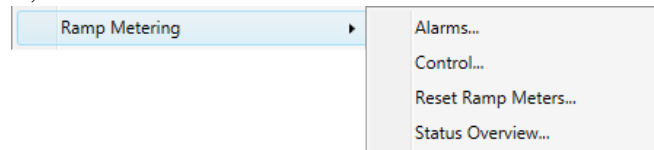

Figure 3-19 – Ramp Metering Menu
- **Ramp Metering Menu** (see Figure 3-19): This option allows the operator to manage Ramp Meter devices; the software is described in detail in Section 3.2.11.